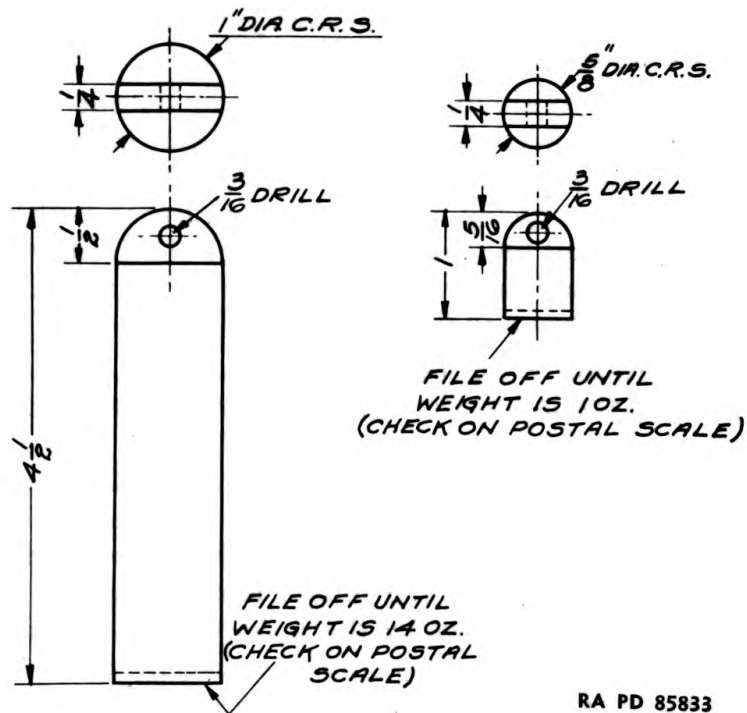

Figure 78 — Suggested Dimensions for Torque Amplifier Testing Weights
d. Sensitivity. With motor running and output shaft *free*, a 1-ounce weight suspended by a thread from the input coupling, as shown in figure 76, should start smooth rotation. Allow the weight to unwind from the coupling for at least one turn, in both directions. A 1-ounce weight may be made of any material which will not rust or absorb moisture, and may usually be checked on a postal scale. A suggested design is shown in figure 78.
(2) When the above tools are not available, the simple weights and arm shown in figures 78, 79, and 80 may be made and used. Suspend the 14-ounce weight from the arm between the inner and outer marks. When it is at the $1\frac{3}{16}$ -inch mark, it should be lifted to a